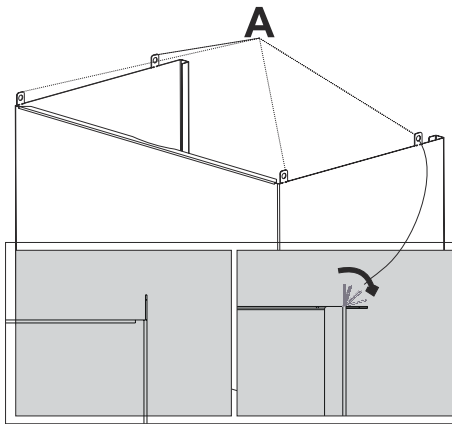

Fig. 20
- 6.** ➔ Pull the interior flue through the exterior flue. Interior flue has 4 mounting parts on it. Bend these interior parts outwards 90° (Fig. 20).